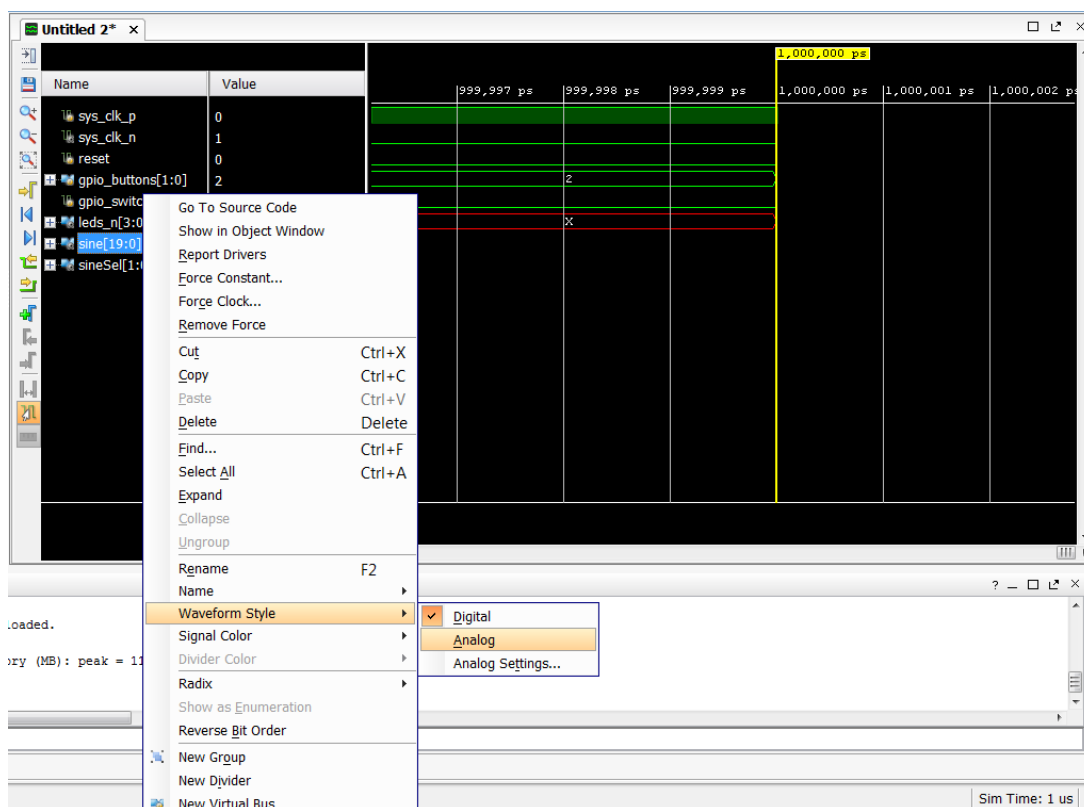

Figure 16: Enable Analog Waveform Style
- Right click to open the popup menu, and select **Waveform Style > Analog**, as shown in Figure 16.